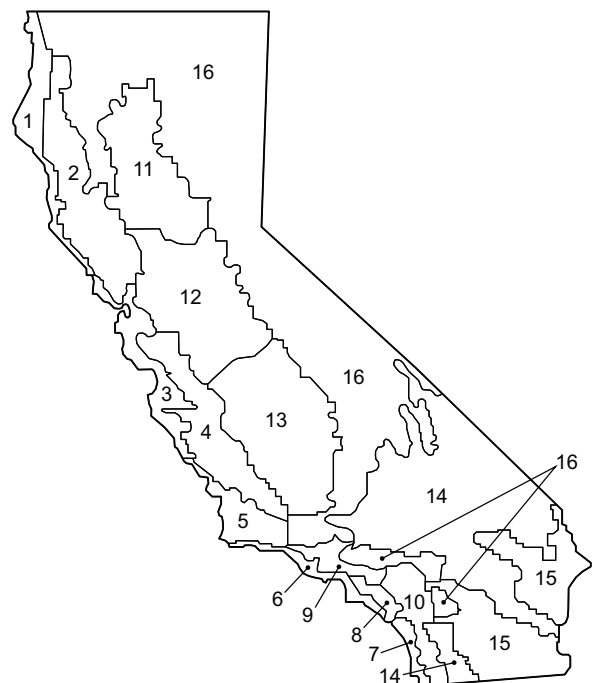

Fig. 76 – California Title 24 Zones
b. Refer to Fig. 76 for map of California Title 24 zones.